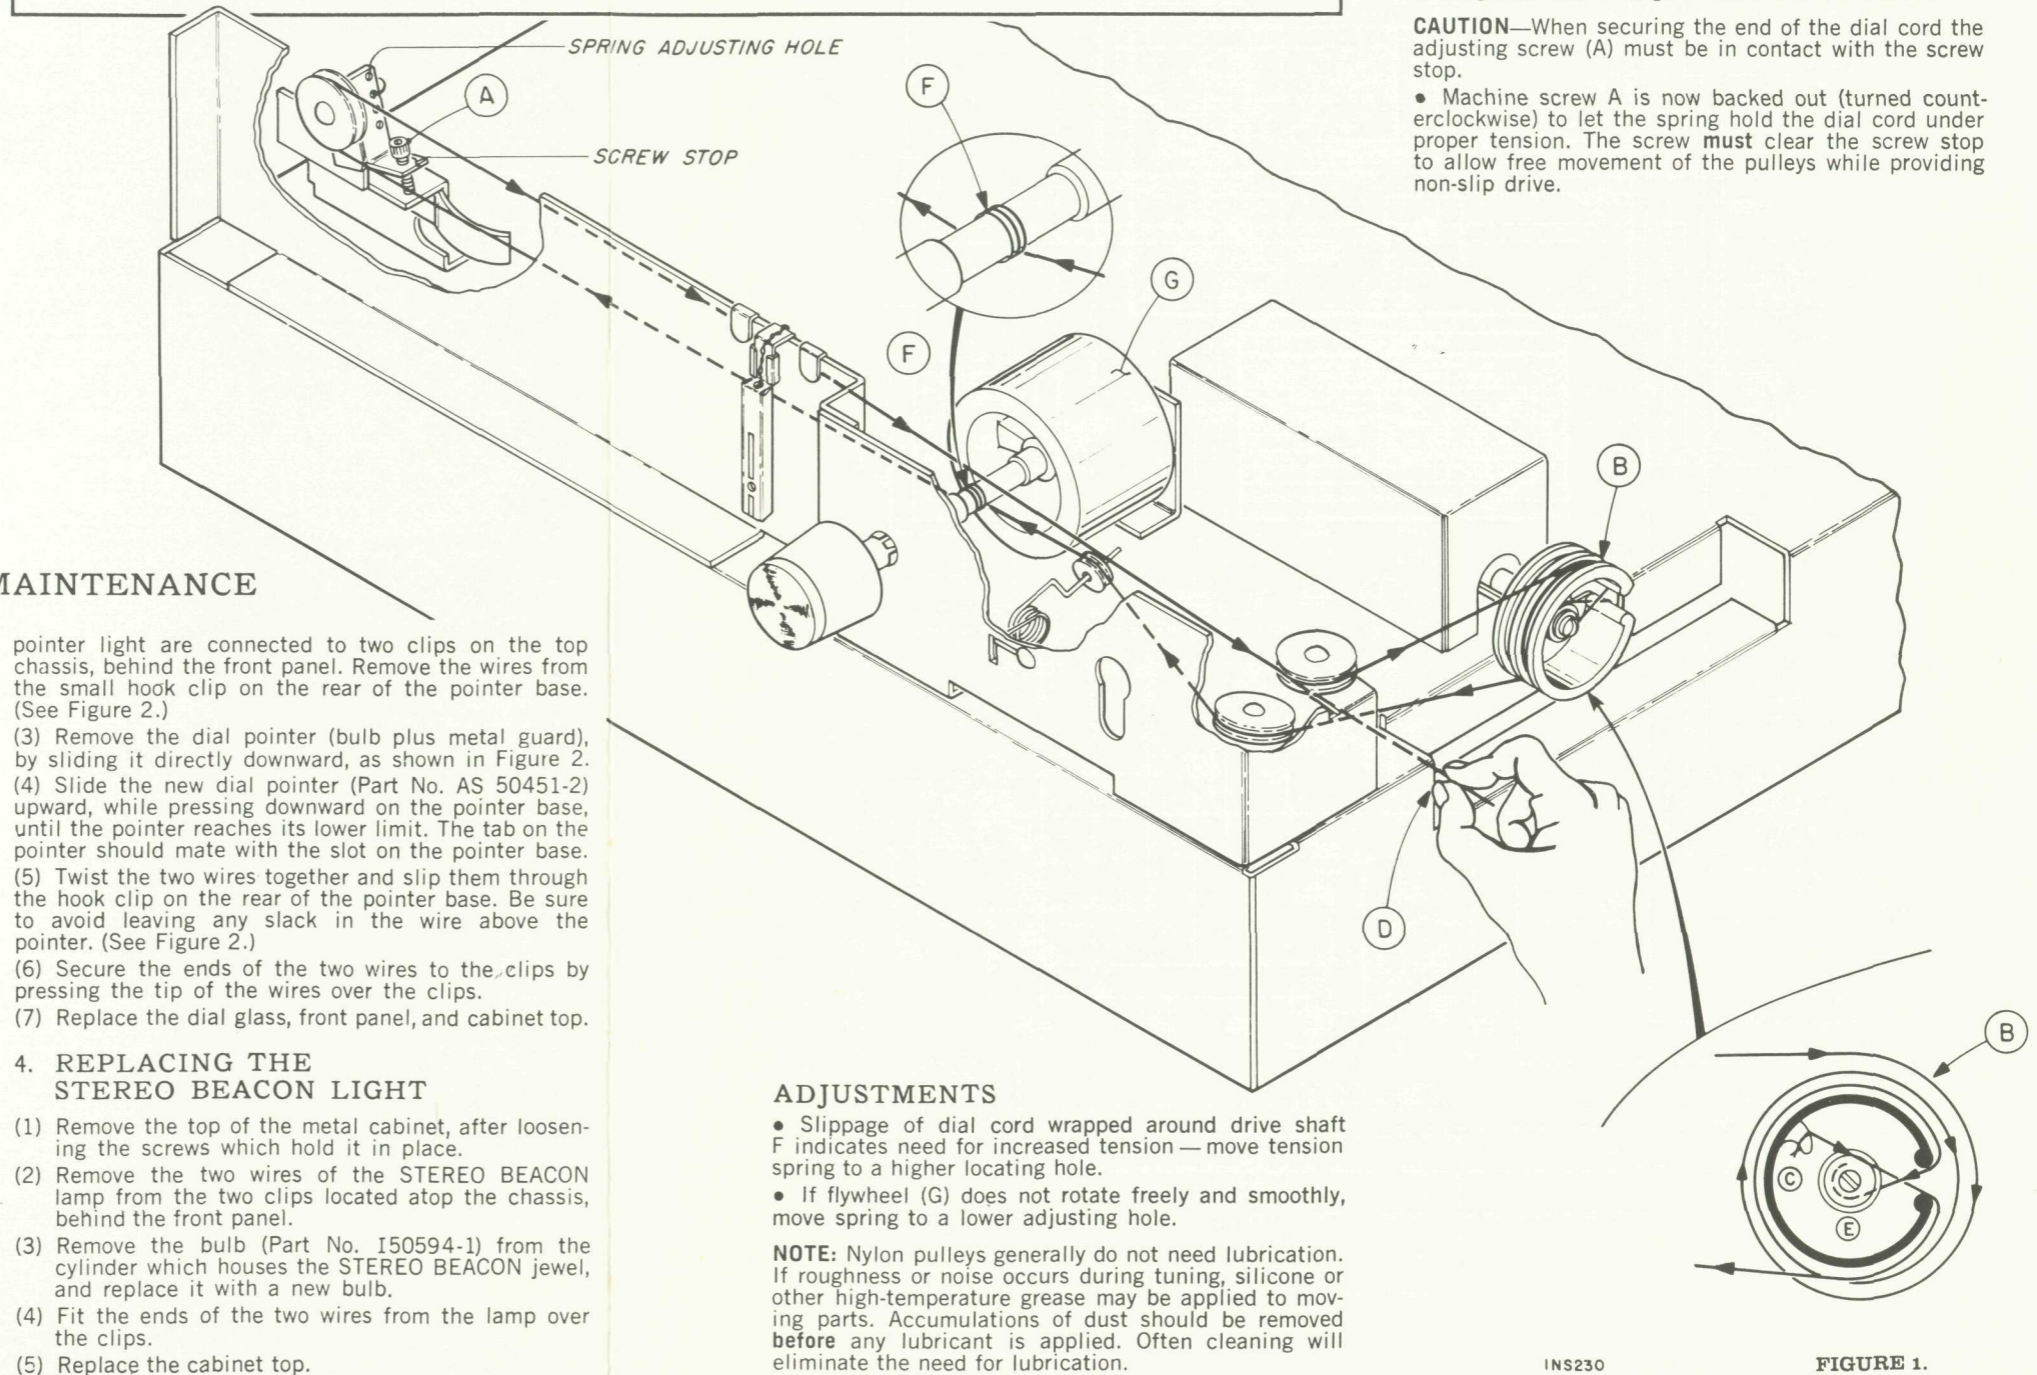

FIGURE 1.
- Tie dial cord to ear C (in capacitor-drive drum) as shown in Figure 1. Dial cord goes through slot in drum and is set in the inner groove.
- Wrap the end of the dial cord around the body of the machine screw (E) in the hub of the drive drum and tighten. The cord goes under the flat washer.
**CAUTION**—When securing the end of the dial cord the adjusting screw (A) must be in contact with the screw stop.